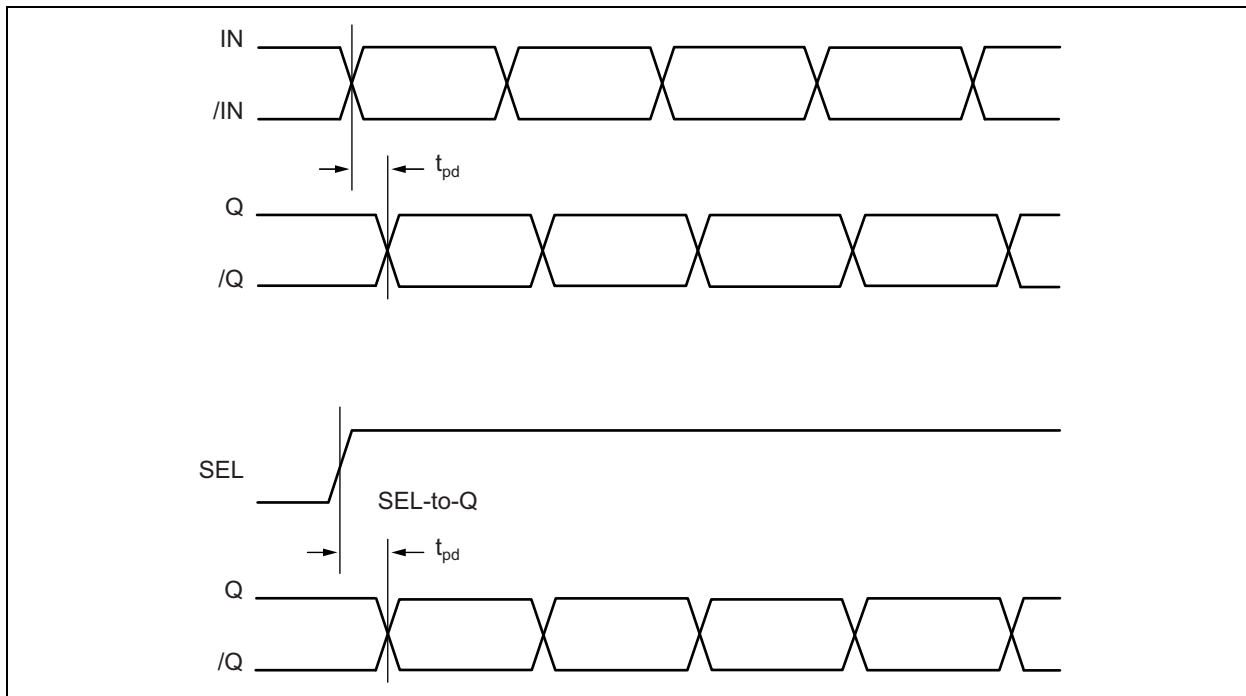

FIGURE 4-1: Timing Diagram.
- Note 1:** Measured with 100 mV input swing. See Figure 4-1 for definition of propagation delay parameters. High-frequency AC parameters are guaranteed by design and characterization.